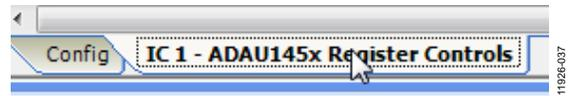

Figure 35. ADAU145x Register Controls Tab
- a. Click the **Hardware Configuration** tab, and then click the **IC 1 – ADAU145x Register Controls** tab at the bottom of the window (see Figure 35).